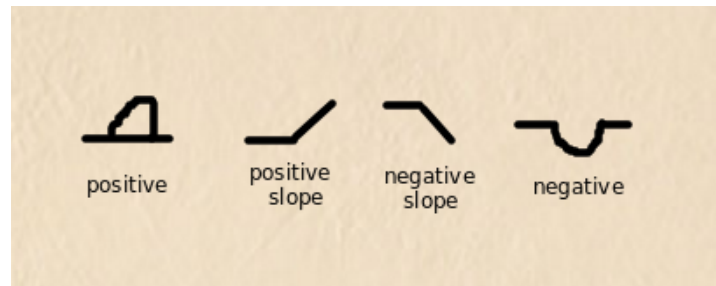

Figure 17: With ray tracing, laser scanners is able to recognize different types of obstacles.
**Why ray tracing** in obstacle layer and voxel layer? Ray tracing is best known for rendering realistic 3D graphics, so it might be confusing why it is used in dealing with obstacles. One big reason is that obstacles of different type can be detected by robot's sensors. Take a look at figure 17. In theory, we are also able to know if an obstacle is rigid or soft (e.g. grass)5.